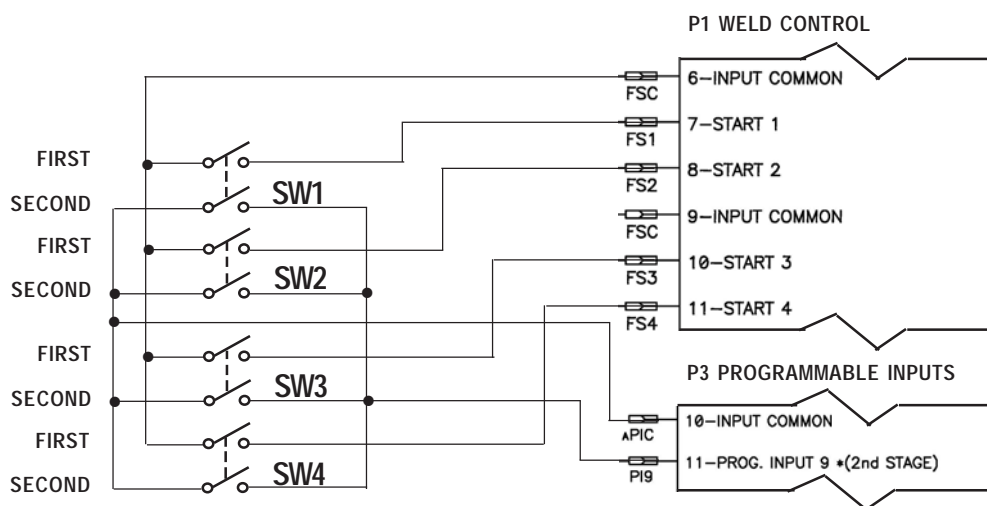

Figure 4-11. *Multiple two-stage foot switches connection diagram*
1. The foot switches are connected to connectors P1 and P3 of control as shown in Figure 4-11. One (1) to four (4) two-stage foot switches can be used. Activating foot switches SW1 through SW4 will initiate welding sequence in the SCHEDULE associated with activated switch.